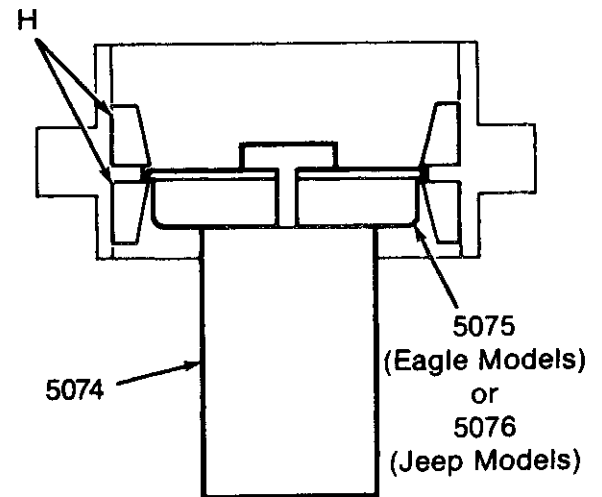

Fig. 9
10. On Eagle models, position bearing race remover tool 5075 between inner and outer bearing races (H) (Fig. 9).
11. On Jeep models, position bearing race remover tool 5076 between inner and outer bearing races (H) (Fig. 9).
12. Position press pin 5074 (Fig. 9) on bearing race remover tool.